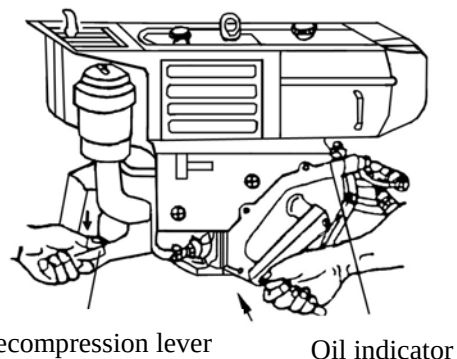

Fig.1 Expelling antirust oil
1.2 Remove the exhaust pipes. Put the starting crank in the starting shaft, turn the De-compression lever with your left-hand and crank the engine to expel out the anti-rusting oil applied in the cylinder until no oil flows out from the exhaust port. Then reinstate the exhaust pipe (see Fig.1.)